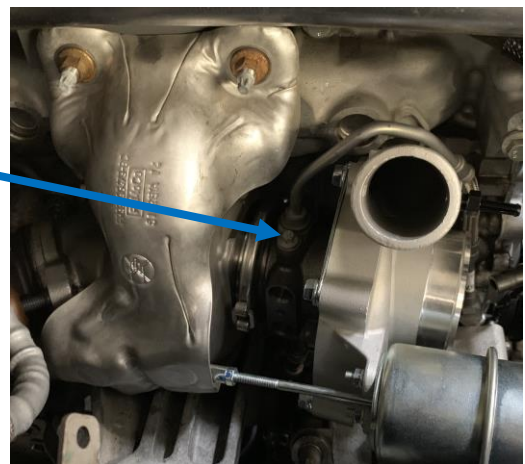

Fig. 23
- Push flange gently into the center housing until the flange is flush and fully seated. See Fig. 23 (use 8mm socket) *Torque to 89 lb.in (10 Nm)*